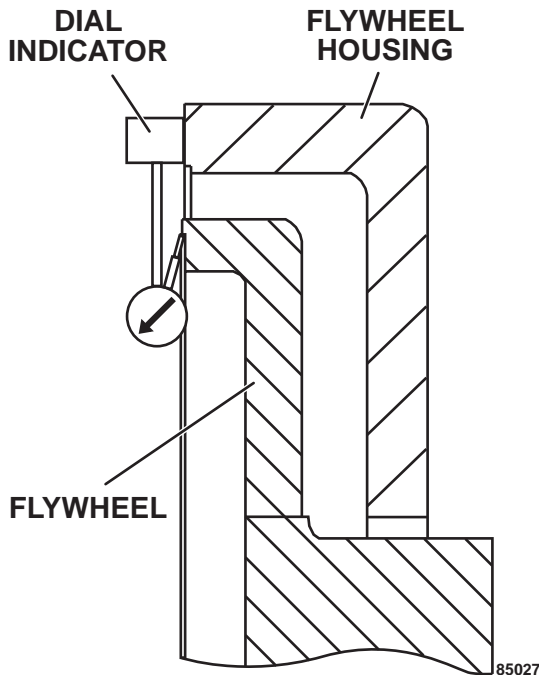

FIGURE 50-35. DIAL INDICATOR SETUP
1. Locate the dial indicator base on the machined face of the flywheel housing and zero the probe on the inside diameter of the flywheel/flexplate pilot bore. See Figure 50-35.